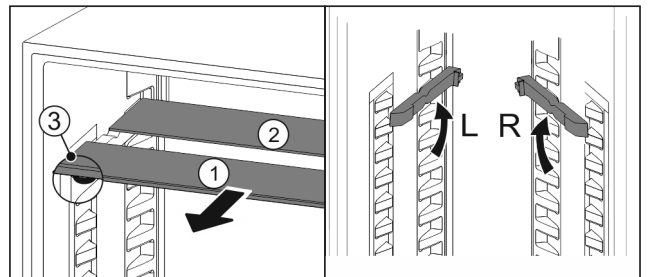

Fig. 49
- Pull the glass panels out Fig. 49 (1) from the front, one at a time.
- ▷ The glass panel Fig. 49 (1) and trim strip are at the front.
- ▷ The stops Fig. 49 (3) point down.